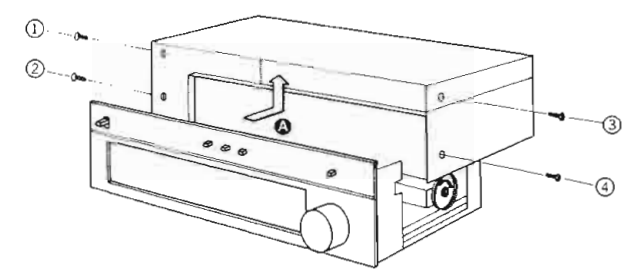

Fig. 5
- Remove the 4 screws. (nos. ① ~ ④ screws in fig. 5).
- Sliding it toward **A** direction and lifting it upward as shown in fig. 5.